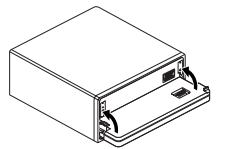

Fig. 13
3. Flip the holders into upright positions. (Fig. 13)